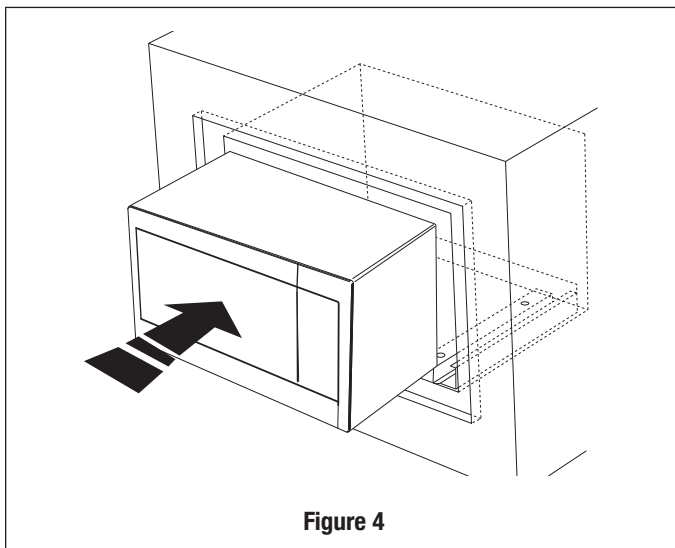
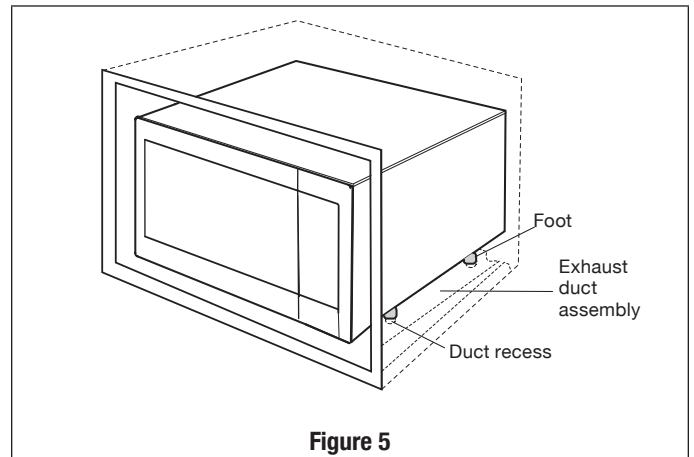

Figure 4
Figure 5
- Carefully guide the assembled oven into the prepared opening. Slide the oven onto the EXHAUST DUCT ASSEMBLY. See Figure 4. Avoid pinching the cord between the oven and the wall. Adjust the position of the oven so that the feet of the oven are fitted into the recesses of the EXHAUST DUCT ASSEMBLY and the door opens properly. See Figure 5.
2. Carefully guide the assembled oven into the prepared opening. Slide the oven onto the EXHAUST DUCT ASSEMBLY. See Figure 4. Avoid pinching the cord between the oven and the wall. Adjust the position of the oven so that the feet of the oven are fitted into the recesses of the EXHAUST DUCT ASSEMBLY and the door opens properly. See Figure 5.